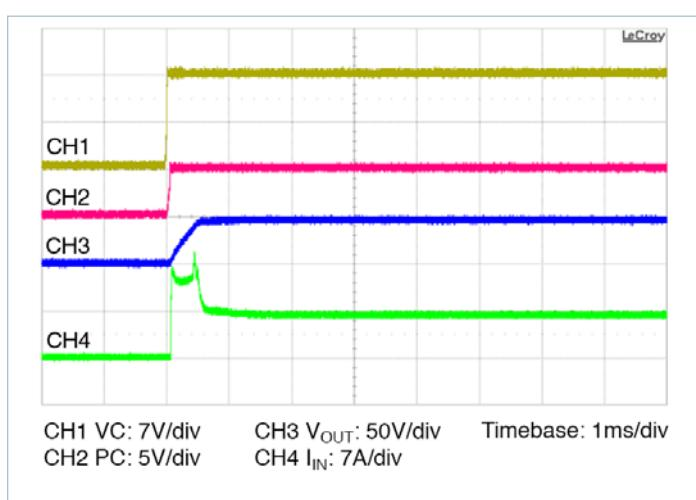

Figure 14 — Start up from application of  $V_C$ :
- **Stand-alone operation (VC applied after  $V_{IN}$ ):** In this case the VTM output will begin to rise upon the application of the VC voltage (See Figure 14). The Adaptive Soft Start Circuit may vary the output rate of rise in order to limit the inrush current to its maximum level. When starting into high capacitance, or a short, the output current will be limited for a maximum of 1200µs. After this period, the Adaptive Soft Start Circuit will time out and the VTM module may shut down. No restart will be attempted until VC is re-applied or PC is toggled. The maximum output capacitance is limited to 100µF in this mode of operation to ensure a sucessful start.